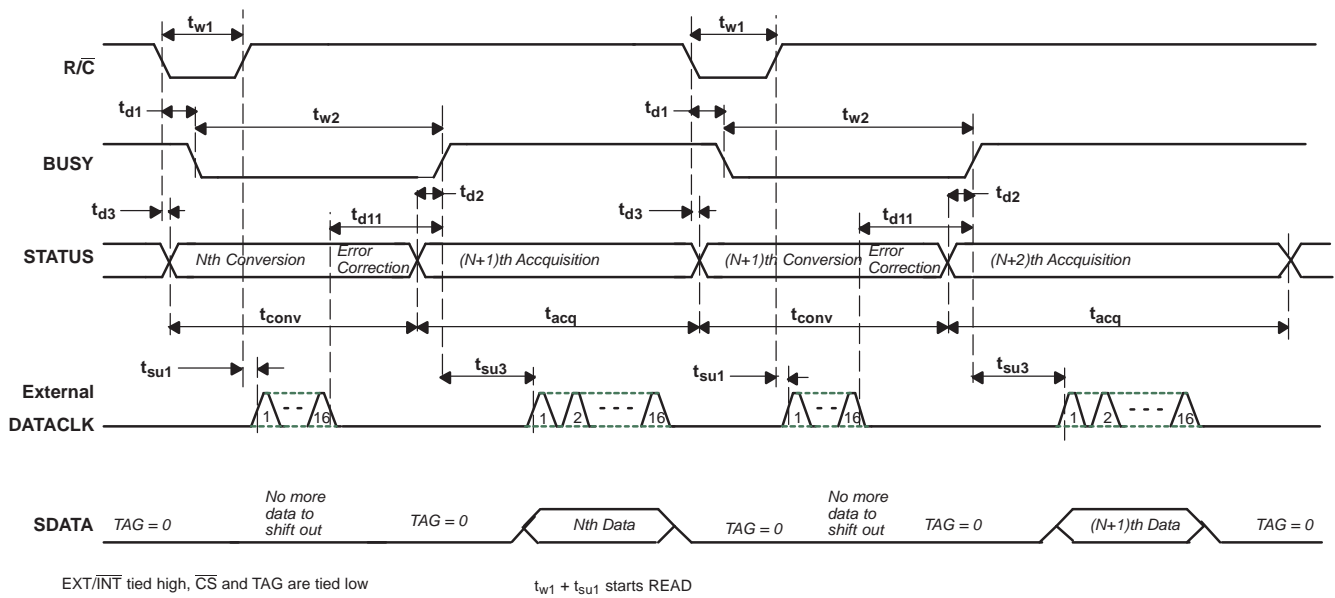
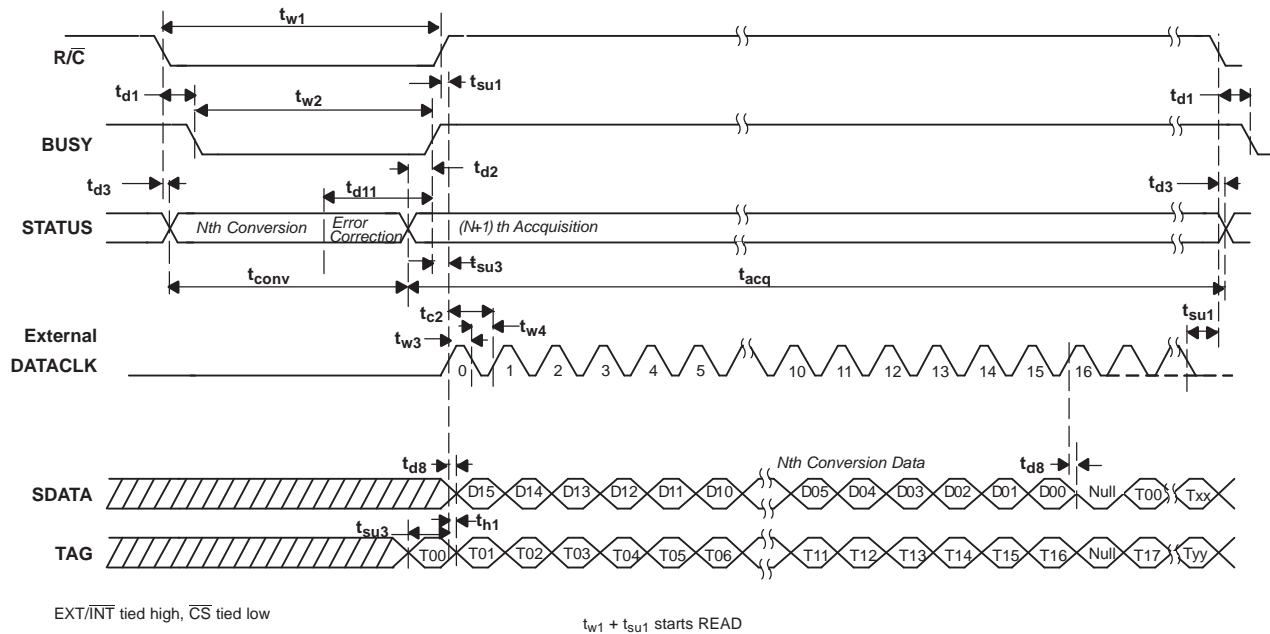
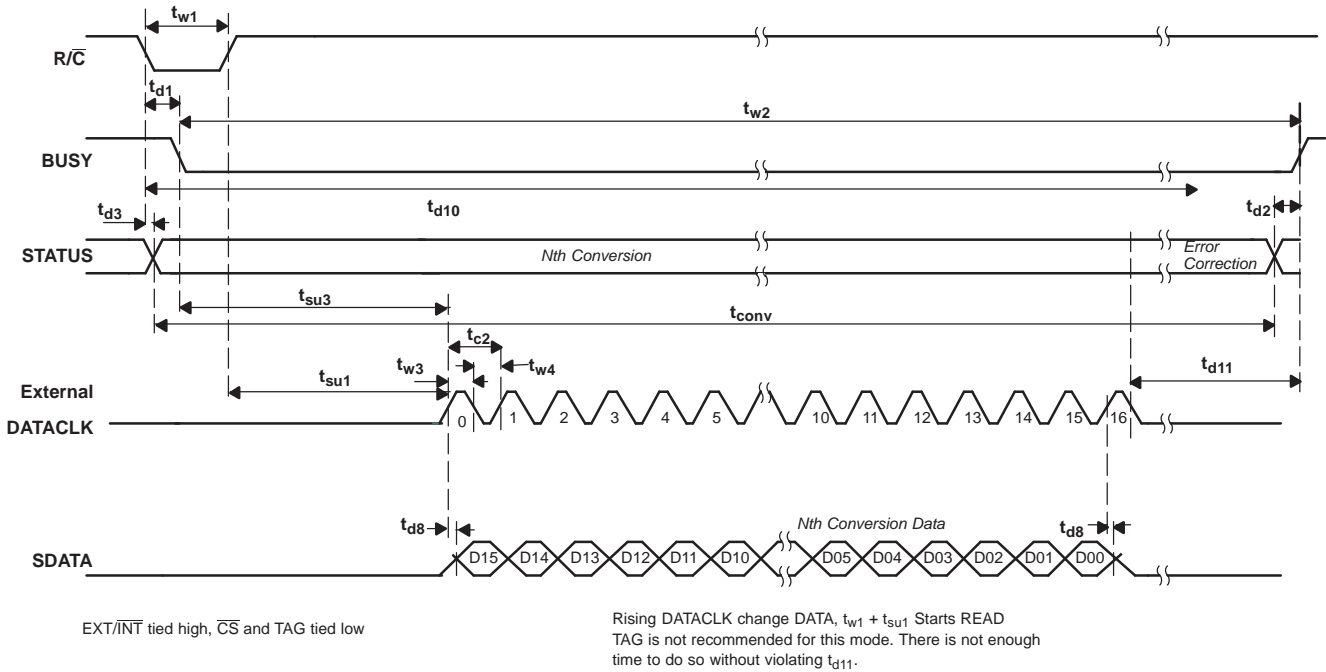

Figure 37. Basic Conversion Timing - External DATACLK
Figure 38. Read After Conversion (Discontinuous External DATACLK)
Figure 39. Read During Conversion (Discontinuous External DATACLK)
(1) See Figure 37, Figure 38, and Figure 39 for constraints on data valid from conversion  $N-1$ .
After conversion  $N$  is completed and the output registers have been updated,  $\overline{\text{BUSY}}$  (pin 24) goes high. With  $\overline{\text{CS}}$  low and R/ $\overline{\text{C}}$  high, valid data from conversion  $N$  is output on SDATA (pin 19) synchronized to the external data clock input on DATACLK (pin 18). The MSB is valid on the first falling edge and the second rising edge of the external data clock. The LSB is valid on the 16th falling edge and 17th rising edge of the data clock. TAG (pin 20) inputs a bit of data for every external clock pulse. The first bit input on TAG is valid on SDATA on the 17th falling edge and the 18th rising edge of DATACLK; the second input bit is valid on the 18th falling edge and the 19th rising edge, etc. With a continuous data clock, TAG data is output on SDATA until the internal output registers are updated with the results from the next conversion. Refer to Table 6 and Figure 38.
After conversion  $N$  has been initiated, valid data from conversion  $N-1$  can be read and is valid up to 12  $\mu\text{s}$  after the start of conversion  $N$ . Do not attempt to clock out data from 12  $\mu\text{s}$  after the start of conversion  $N$  until  $\overline{\text{BUSY}}$  (pin 24) rises; this results in data loss. NOTE: For the best possible performance when using an external data clock, data should not be clocked out during a conversion. The switching noise of the asynchronous data clock can cause digital feedthrough degrading the converter's performance. Refer to Table 6 and Figure 39.